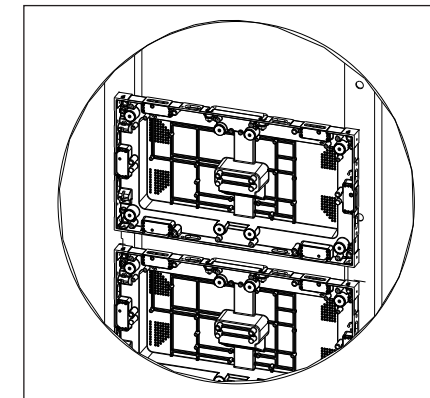

Figure 7: Set Panel in Place
2. Place the panel on top of the existing panel, fitting the alignment pins into the recesses. Refer to **Figure 7**.